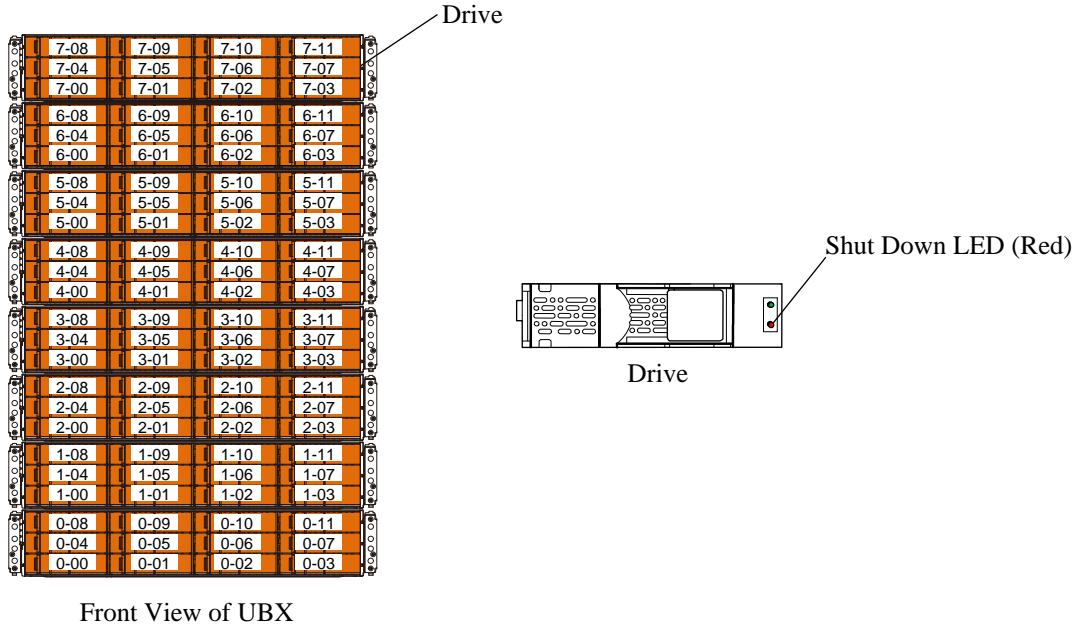

Fig. 3.3.2-1 Checking of Shut Down LED (In case of UBX)
- Check that the Shut Down LED on drive is turned on. Refer to Fig. 3.3.2-1, Fig. 3.3.2-2 or Fig. 3.3.2-3.